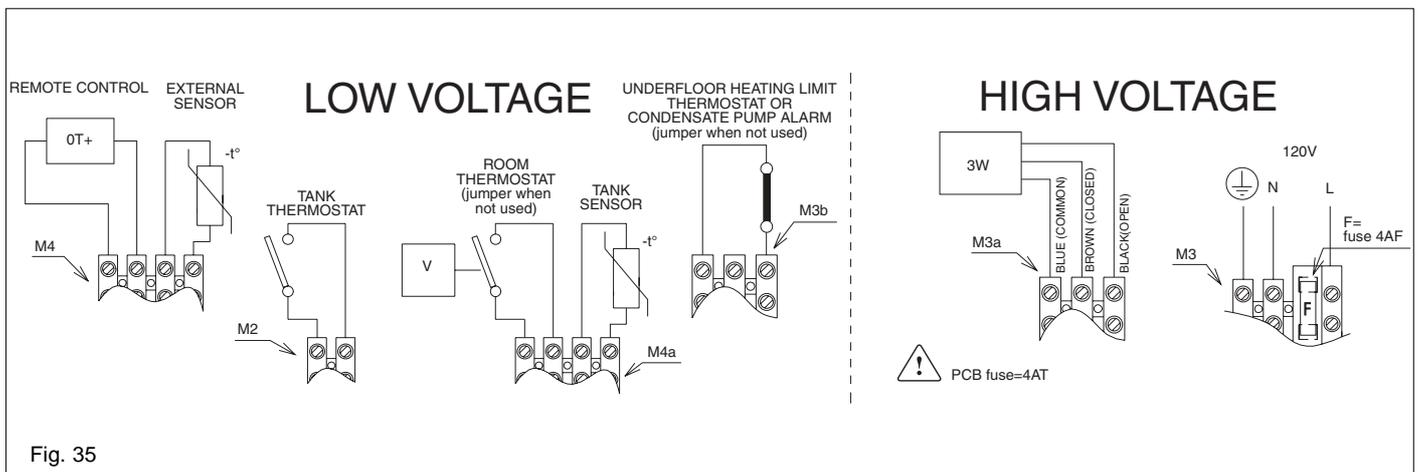

Fig. 35
NOTICE: The appliance comes with a factory installed jumper for room thermostat connection to allow basic operation of the boiler via the mode selector switch. If it is anticipated that external controls will be required please refer to the wiring diagrams (remove room thermostat jumper if there is the remote control installed on the low voltage terminal strip - M4 Fig. 35).
Boiler terminal strip (Fig. 35)
1. Connect room thermostat or end switch, terminal strip is 24V (Fig. 35 ref. M4a)
| High voltage (Fig. 35) | M3 | Main supply | 120 VAC – 60 Hz | The main supply cable must be anchored to the boiler frame (Fig. 39) and pass through the strains relief (field supplied). Cable as specified in the electrical supply. |
| Low voltage (Fig. 35) | M4 | Remote control | Open therm plus protocol | Only Raypak Part No. 013073 |
2. Once the jumper has set in DHW mode (tank with probe or tank with thermostat), when there is a heat request from the sensor or from the thermostat, there is power out (120V – 60 Hz) to the boiler terminal strip M3a (Fig. 35).